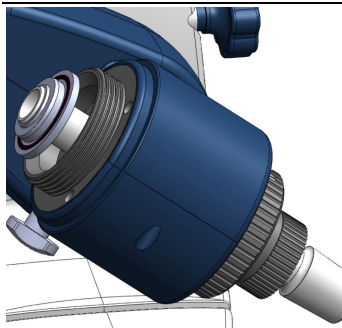
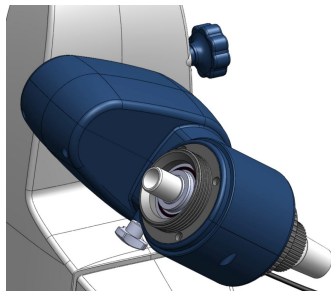

Figure 10
Figure 11
- Installing condenser seal (Figure 10 and Figure 11).